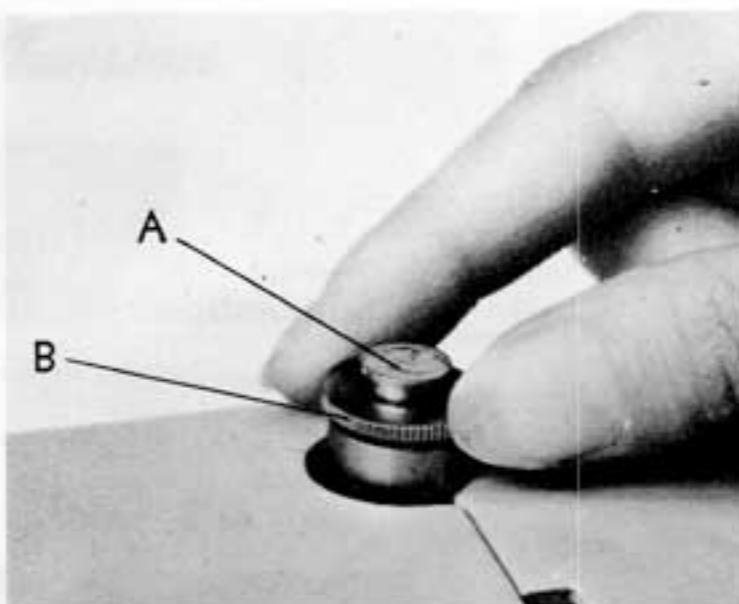

Fig. 19
The PRESSURE REGULATOR is located on top of the machine directly over the presser bar (Fig. 19 & 20). It regulates the pressure of the presser foot for sewing normal to heavy material and very thin material.
1. To release the pressure on the presser foot for sewing very fine material such as silks etc., push down the OUTSIDE RING of the PRESSURE REGULATOR (B) then select desired pressure depending on the type of material being sewn (Fig. 19).
Fig. 19 en 20 laat U de regelaar van de druk van de persvoet zien.